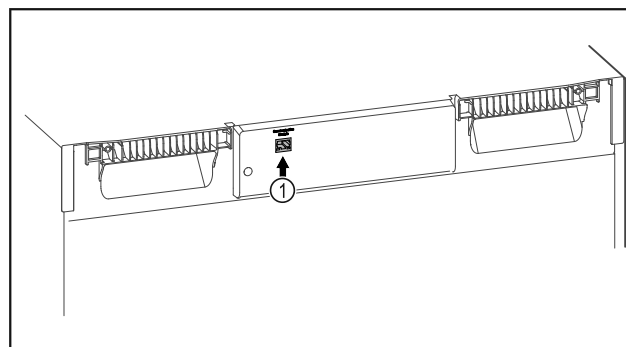

Fig. 115
- ❑ SmartModule Fig. 115 (1) is in use.